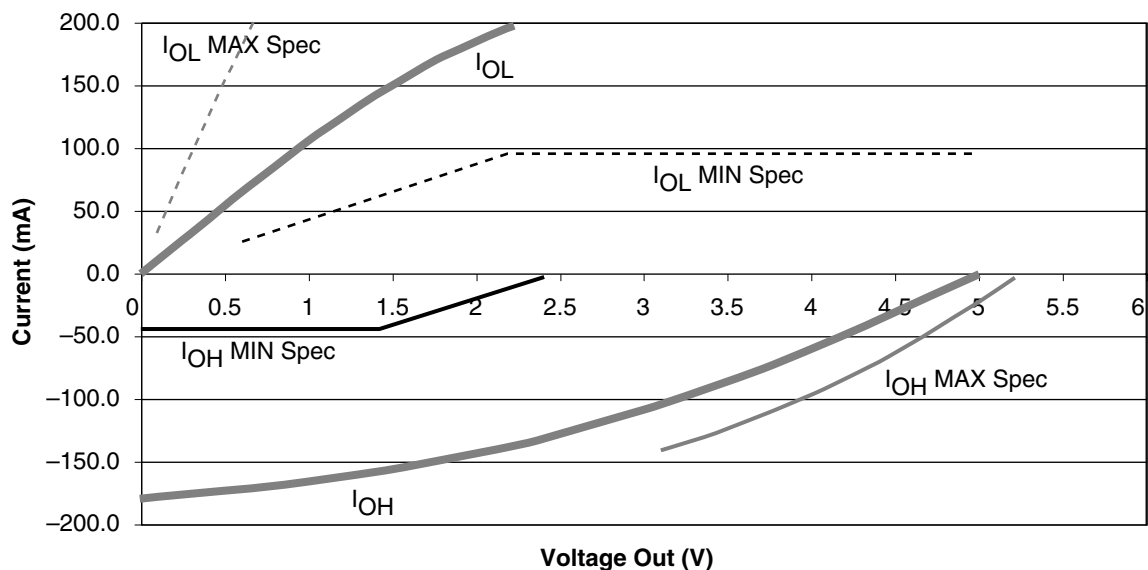

Figure 11 • 5.0V PCI V/I Curve for SX-A Family
1. Refer to the V/I curves in Figure 11 on page 15. Switching current characteristics for REQ# and GNT# are permitted to be one half of that specified here; i.e., half size output drivers may be used on these signals. This specification does not apply to CLK and RST#, which are system outputs. "Switching Current High" specifications are not relevant to SERR#, INTA#, INTB#, INTC#, and INTD#, which are open drain outputs.
3. Maximum current requirements must be met as drivers pull beyond the last step voltage. Equations defining these maximums (A and B) are provided with the respective diagrams in Figure 11 on page 15. The equation defined maxima should be met by design. In order to facilitate component testing, a maximum current test point is defined for each side of the output driver.
Figure 11 shows the 5.0V PCI V/I curve and the minimum and maximum PCI drive characteristics of the SX-A family.